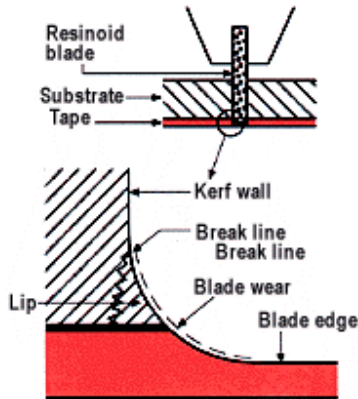
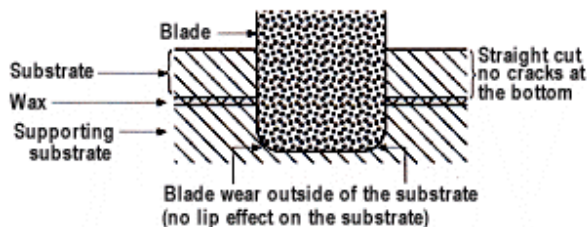

Figure 16
Figure 25
3. On the hard alumina applications using resinoid blades, the chipping cracks phenomena at the contact point with the tap is caused mainly because of high blade wear (figure 16).
The main advantage of using wax materials is not the wax itself acting as a super clamping media but the ability to mount a delicate substrate to a thick and flat supporting substrate. This substrate provides good support and the ability to make a deep cut into the supporting substrate. This eliminates the lip effect and the cracks at the bottom of the substrate. In this case the blade wear is far from the substrate (figure 25 - see also figures 16 and 17).